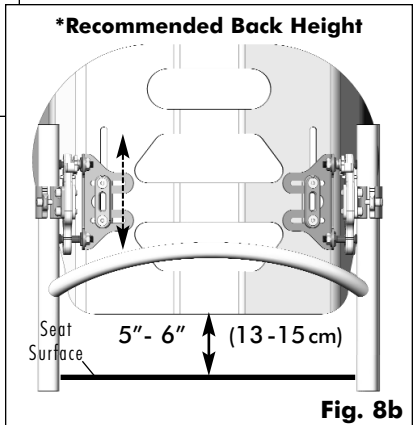

Fig. 8b
- 3 **MX2 Height Adjustment:** The MX2 back height can be adjusted as necessary, via the slotted channel in the MX2 Back shell (refer to **Fig. 8a**). The recommended back height* is approximately **5"-6" (13-15 cm)** from the top of the **seat surface** (seat cushion or seat pan; Refer to **Fig. 8b**).